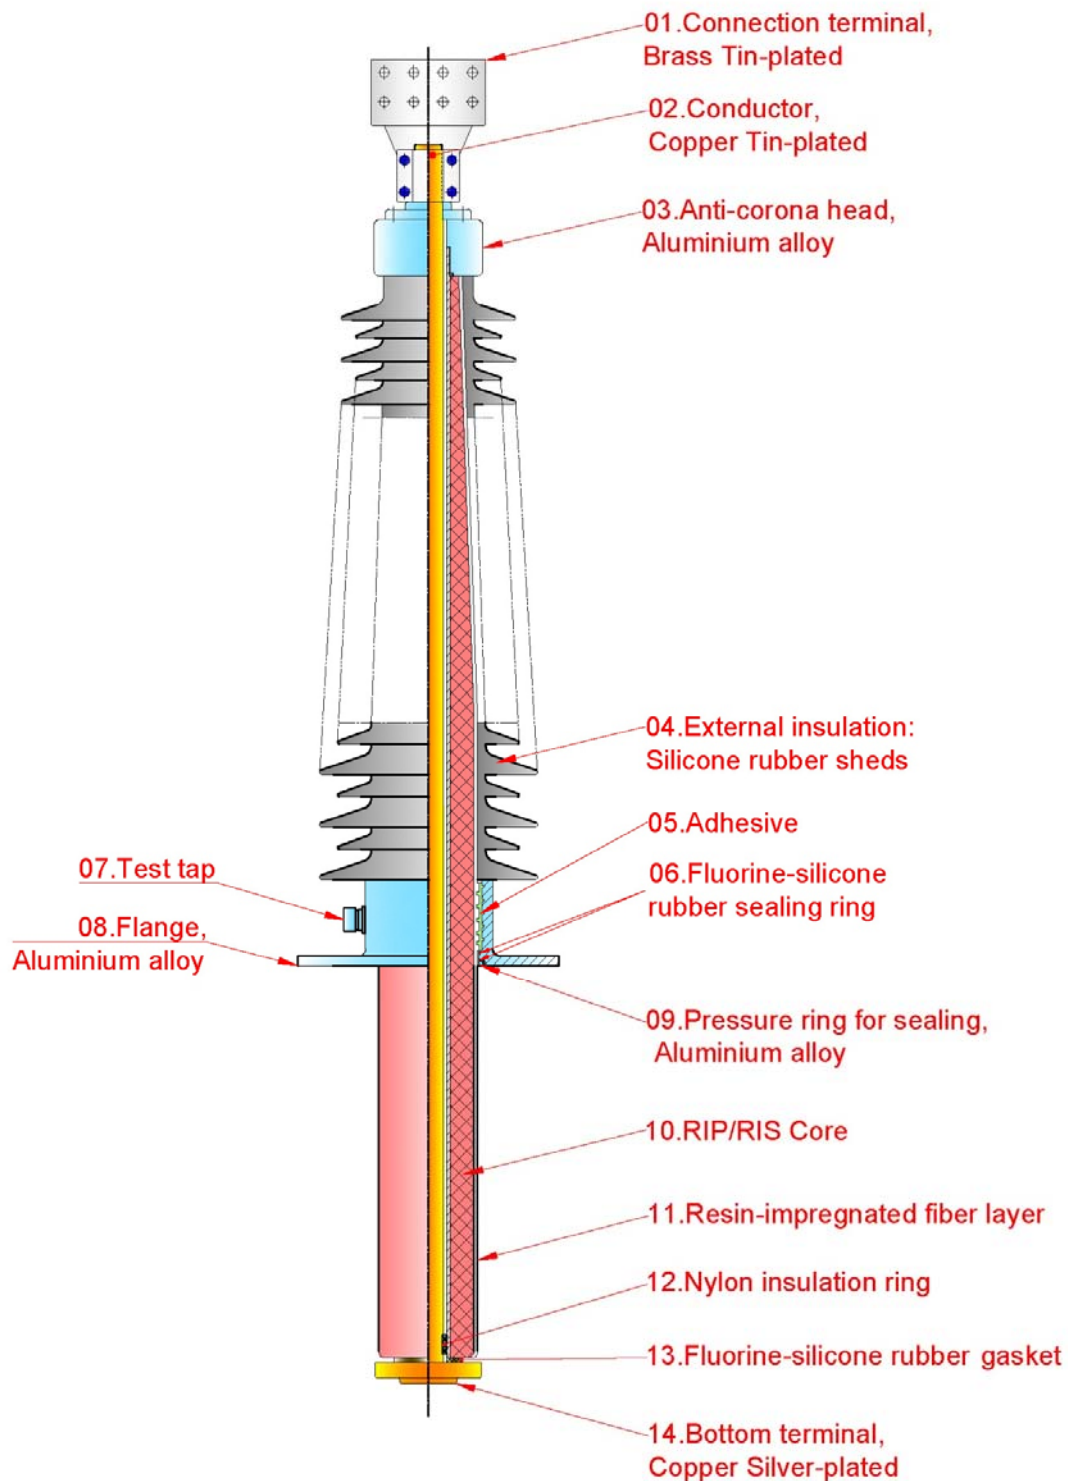
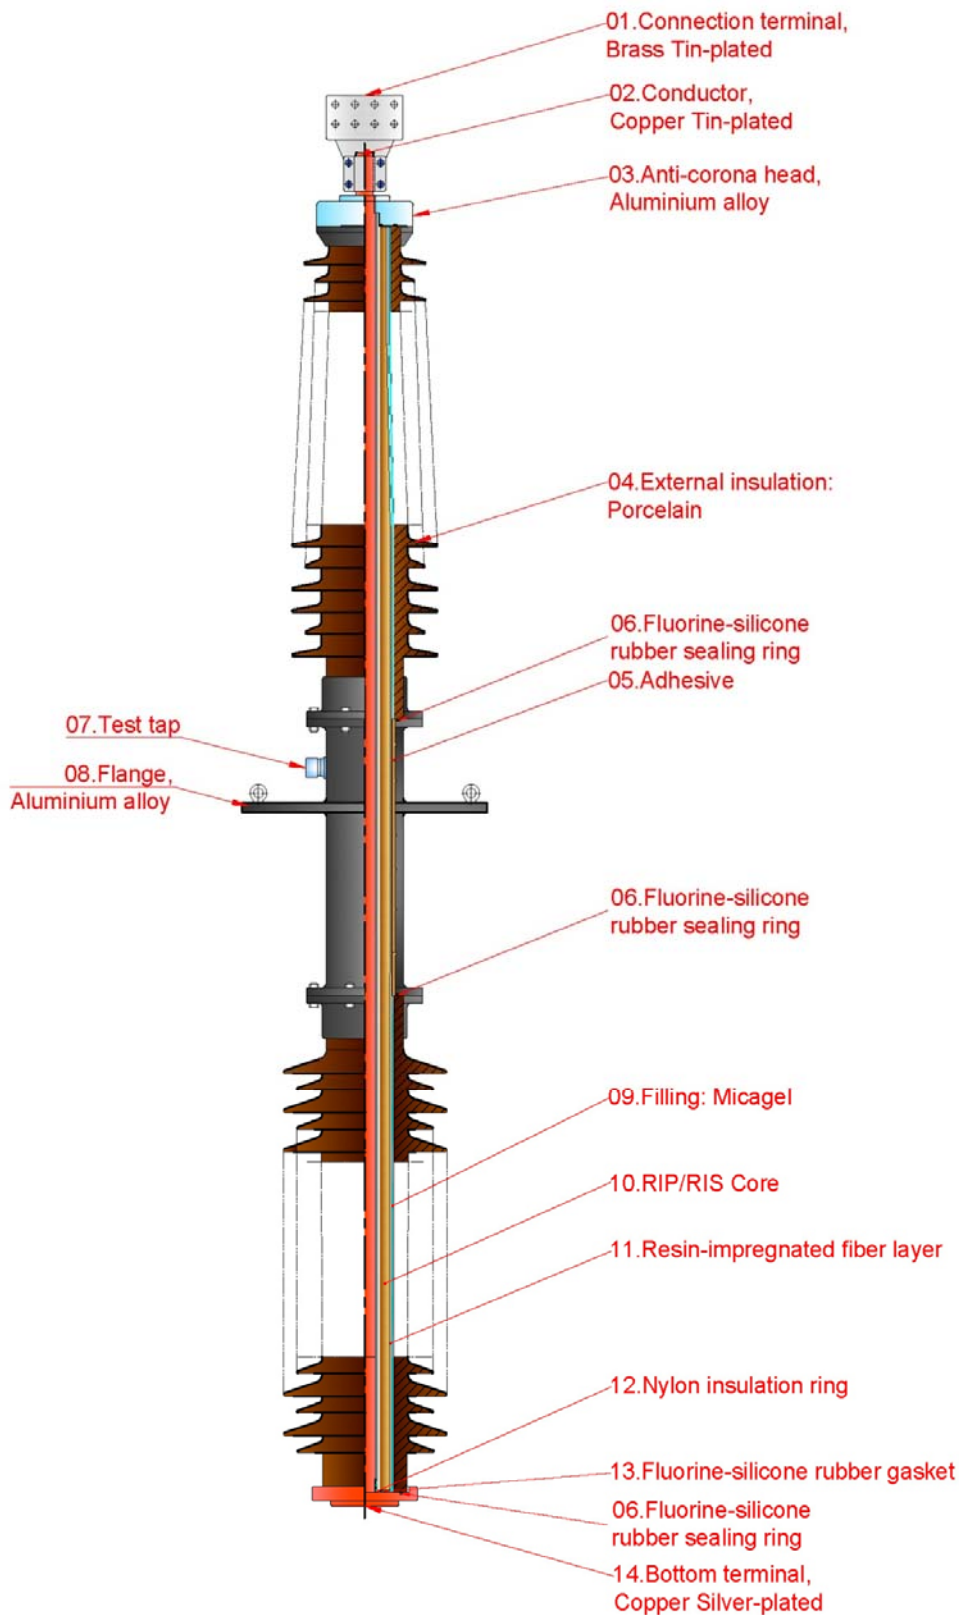

Fig. 1. The structure of built-oil circuit breaker bushing
Fig. 2. The structure of built-oil circuit breaker bushing
- 4.4 The structure of the bushing is shown in Figure 1 and Figure 2.